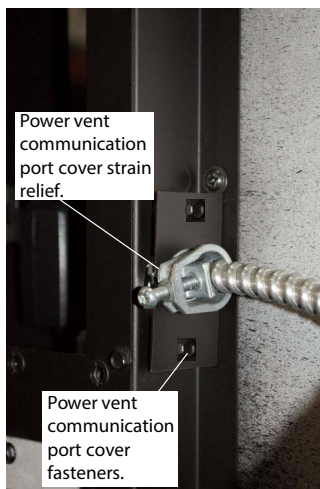

Figure 12e. Installing Conduit Port Cover Plate.
Step 4. Place the cover plate on the Conduit, then tighten the strain relief nut onto the threads protruding through backside of cover plate, **Figure 12e**.
Step 6. Re-Install the communication harness Port cover, **Figure 12e**. (*Philips head screwdriver required*).
Step 7. Tighten Power Vent Strain relief adjustmsent screw, **Figure 12e**.